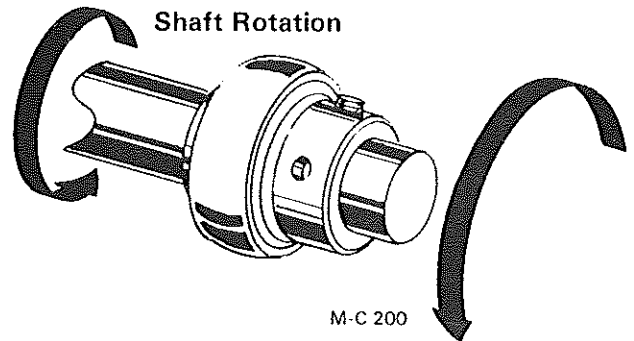

Figure 32
3. Mate the cam of the collar with the cam of the bearing inner ring, See Figure 32.